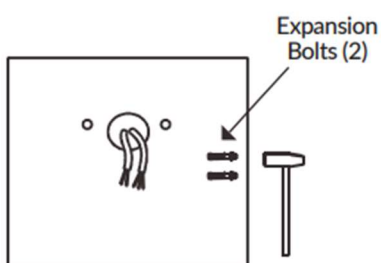

Figure 2
2. Insert the expansion bolts into the surface. (Figure 2)